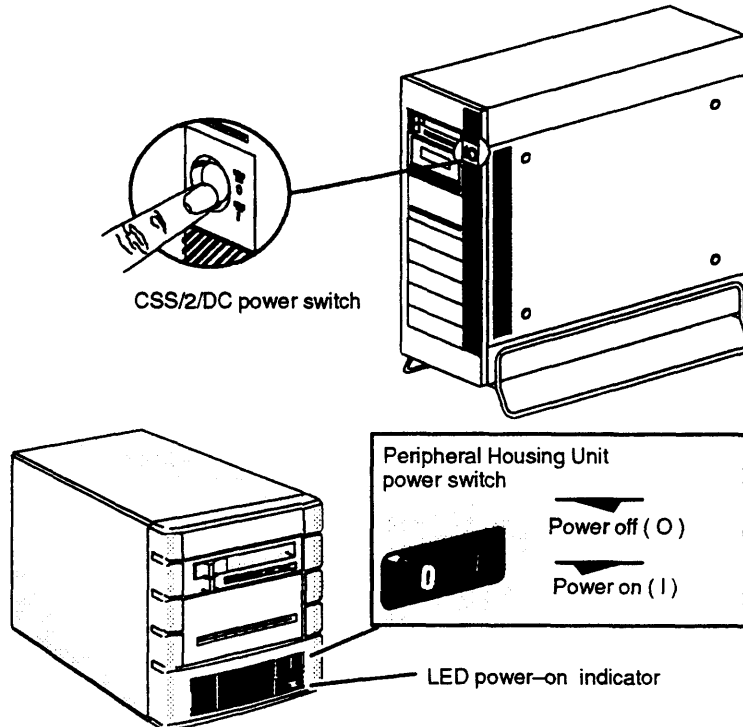

Figure 3-2 Peripheral Housing Unit (PHU) and Combined Storage Subsystem Deskside Chassis (CSS2/DC) Power Switch
2. If you have a Peripheral Housing Unit (PHU), a combined storage subsystem (CSS2/DC), or another external peripheral unit connected to your computer system, turn on power to that device. Figure 3-2 shows how to turn on power to a PHU or CSS/DC.